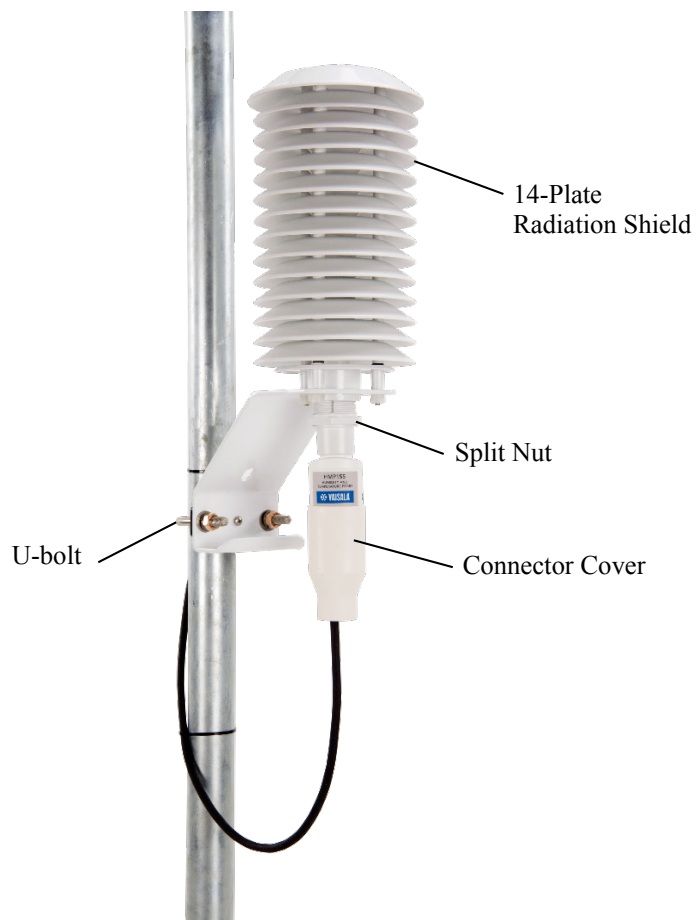

FIGURE 4-5. HMP155A and 14-plate radiation shield on a tripod mast
8. If mounting the 41005-5 directly to a mast, place the 41005-5 U-bolt in the side holes and secure the 41005-5 to the mast by tightening the U-bolt nuts (FIGURE 4-5).